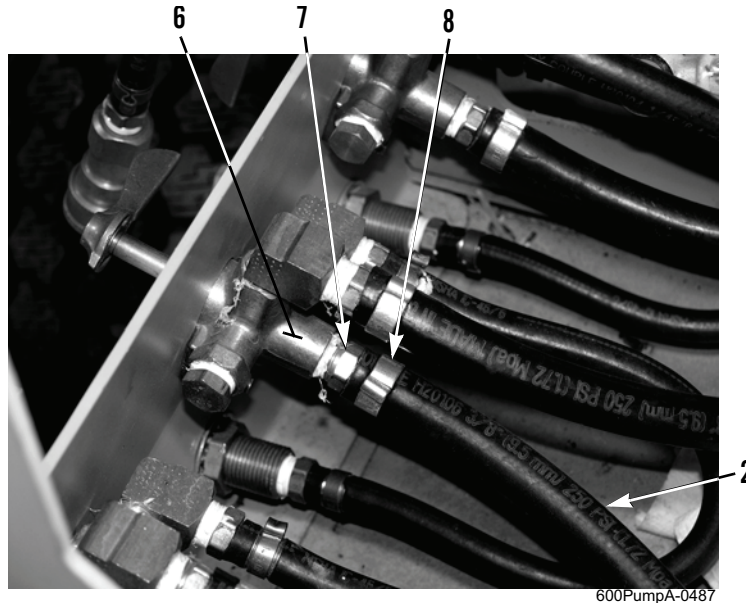

Figure 2. Overflow Hose at Fuel Return Selector Valve.
3. Cut hose clamp (Figure 2, Item 8), hold overflow hose (Figure 2, Item 2), and remove barb fitting (Figure 2, Item 7) and overflow hose from fuel return selector valve (Figure 2, Item 6). Discard hose clamp.
1. Position new hose clamp (Figure 2, Item 8) on overflow hose (Figure 2, Item 2).
2. Hold overflow hose (Figure 2, Item 2) and install barb fitting (Figure 2, Item 7) and overflow hose on fuel return selector valve (Figure 2, Item 6). Tighten hose clamp (Figure 2, Item 8).